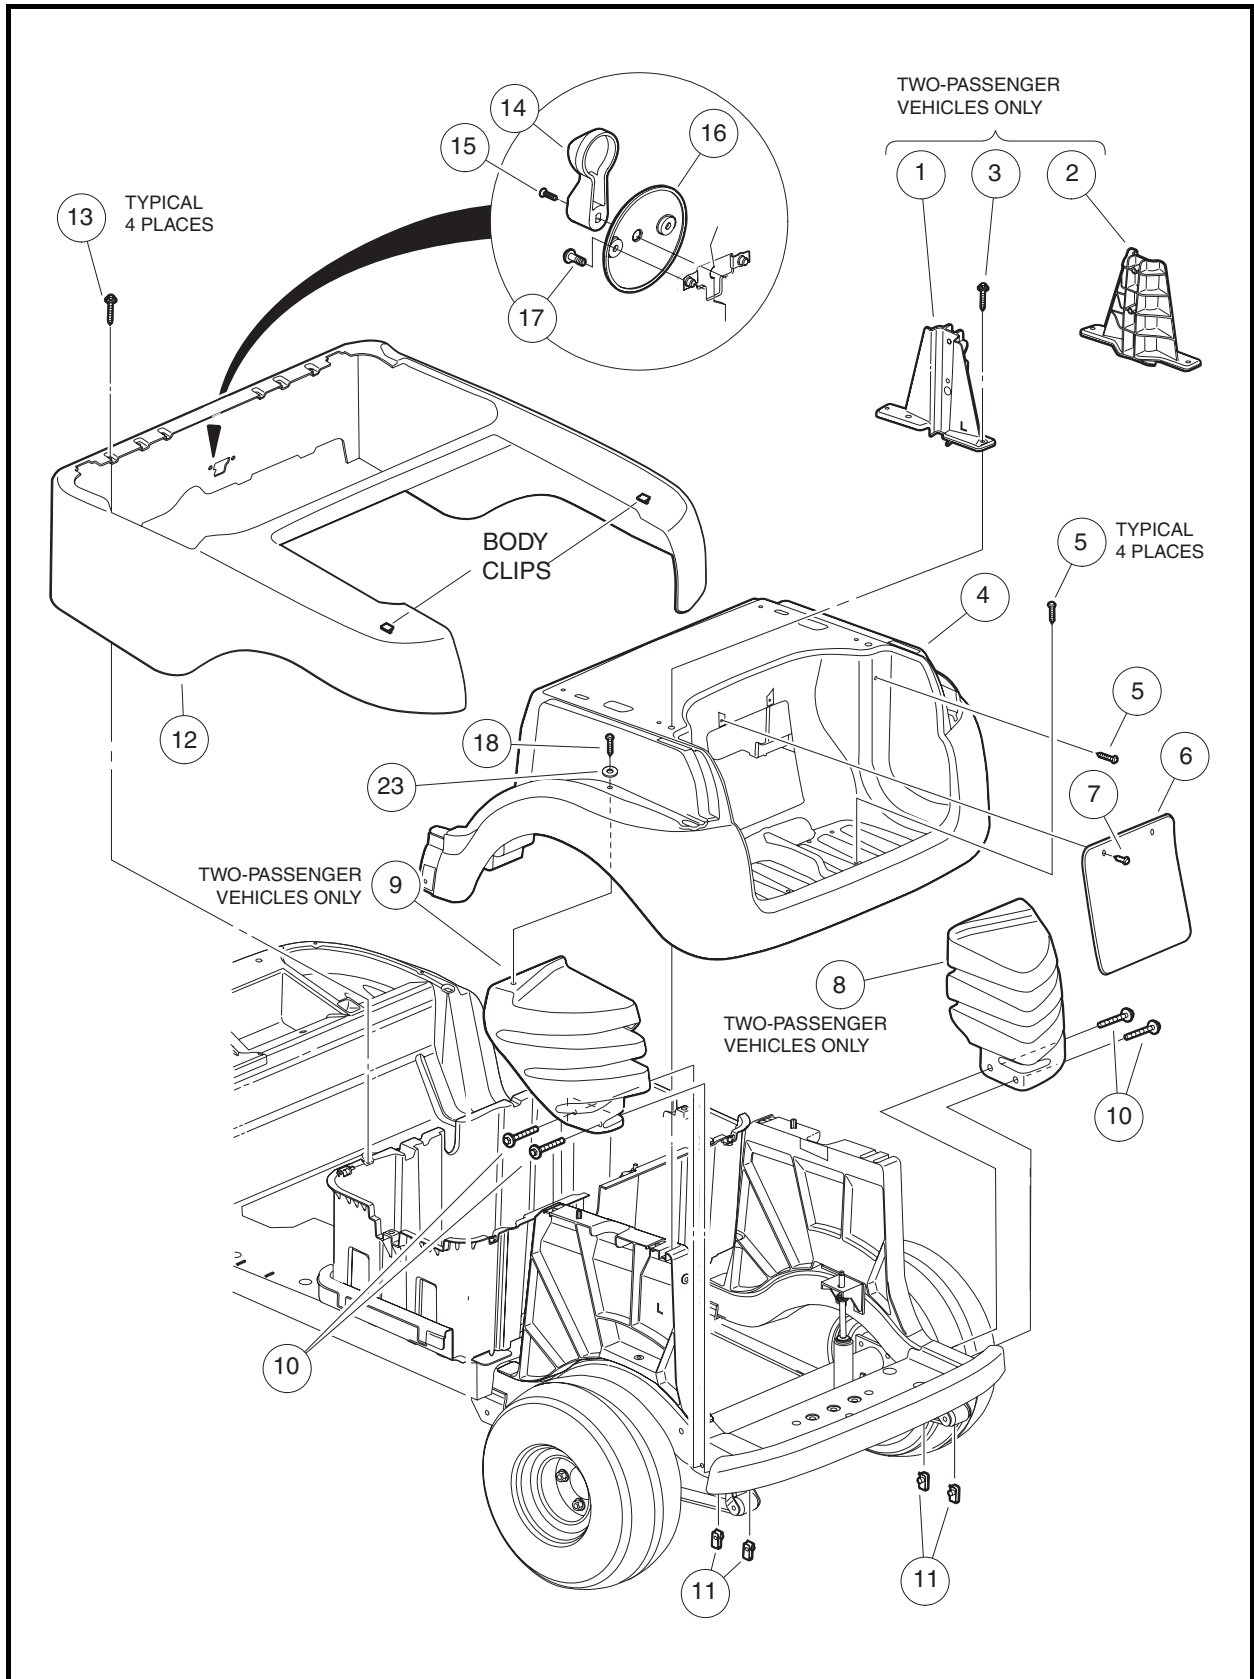

Figure 4-8 Rear Body Components
2. Remove one screw (3) from each canopy support bracket (1 and 2) (**Figure 4-8, Page 4-11**). Remove canopy supports.
3. Remove four screws (13) attaching the rear beauty panel (12) to the fuel bucket.
4. Remove screw (15) and remove shift handle (14) from vehicle.
5. Remove two screws (17) to remove shift cover (16) from rear beauty panel (12).
1. Install rear beauty panel (12) on vehicle. Make sure body clips on the rear of the beauty panel engage the mating slot in the rear underbody (4). Secure beauty panel in place with four screws (13). Tighten screws to 3.7 ft-lb (5 N·m) **(Figure 4-8, Page 4-11)**.
2. Position the shift cover (16) on the front of beauty panel (12) and secure with two screws (17). Tighten screws to 22 in-lb (2.5 N·m).
3. Position handle (14) on shift mechanism. Secure handle in place with screw (15). Tighten screw to 14 in-lb (1.6 N·m).
4. Position canopy support brackets (1 and 2) on vehicle and secure each with one screw (3). Tighten screws to 53 in-lb (6 N·m).
Access panel (6) is secured to the rear underbody (4) with two expanding screws (7) **(Figure 4-8, Page 4-11)**. When replacing the panel, tighten screws (7) enough to hold the panel in place.
1. Remove four screws (5) attaching the rear underbody (4) to vehicle **(Figure 4-8, Page 4-11)**.
2. Remove two screws (18) and washers (23) that attach the underbody to the two liners (8 and 9).
3. Lift the rear edge of the rear underbody (4) until the front portion slides out from beneath the front underbody. Remove the rear underbody from the vehicle.
1. Install rear underbody (4) on the vehicle **(Figure 4-8, Page 4-11)**. Install two washers (23) and screws (18) to secure the underbody to the two wheel liners (8 and 9) and install four screws (5) to secure the underbody to the vehicle. Tighten screws (5 and 18) to 3.7 ft-lb (5 N·m).
1. Remove bolts (10) to release liners (8 and 9) from vehicle **(Figure 4-8, Page 4-11)**.
2. Remove four screws (13) attaching the rear beauty panel (12) to the fuel bucket (**Figure 4-8, Page 4-11**).
3. Remove screw (15) and remove shift handle (14) from vehicle.
4. Remove two screws (17) to remove shift cover (16) from rear beauty panel (12).
1. Install rear beauty panel (12) on vehicle. Make sure body clips on the rear of the beauty panel engage the mating slot in the rear underbody. Secure beauty panel in place with four screws (13). Tighten screws to 3.7 ft-lb (5 N·m) **(Figure 4-8, Page 4-11)**.
2. Lift the rear edge of the rear underbody (4) until the front portion slides out from beneath the front underbody. Remove the rear underbody from the vehicle.
1. Install rear underbody (4) on the vehicle **(Figure 4-8, Page 4-11)**. Install four screws (5) to secure the underbody to its vehicle. Tighten screws (5 and 18) to 3.7 ft-lb (5 N·m).